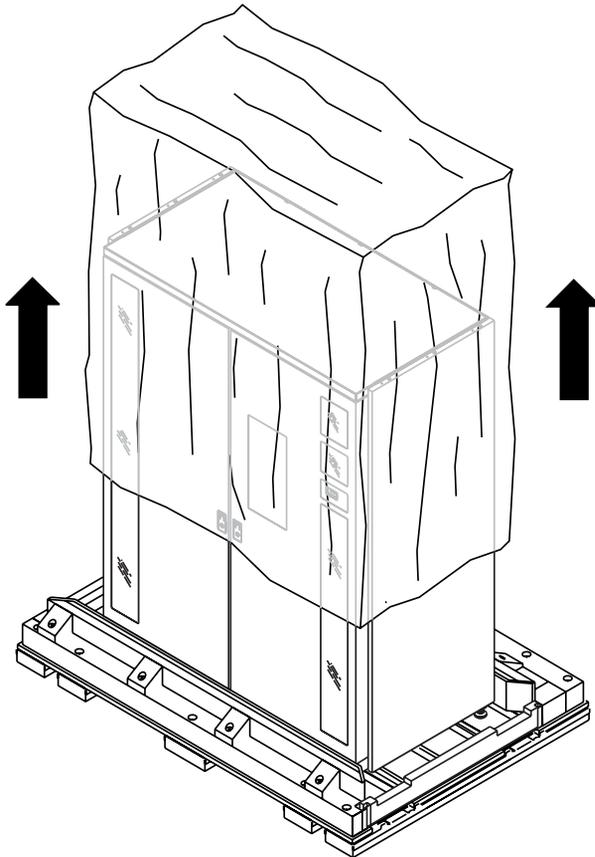

Figure 4-9: Removing the shipping bag
2. Carefully lift the shipping bag off of the library (see Figure 4-9).